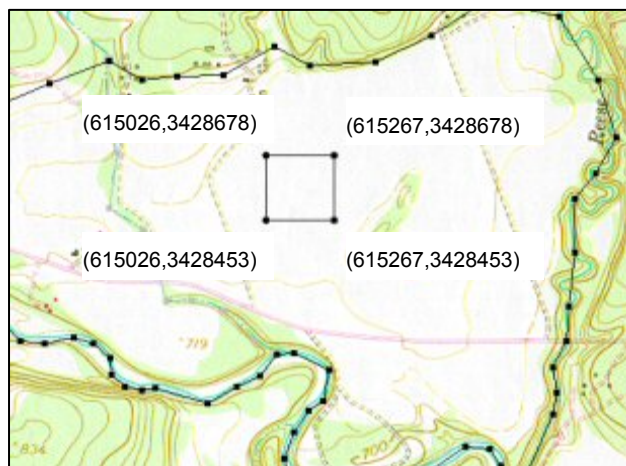

Figure 6. Landfill.
2. Create a rectangular polygon representing the landfill as shown in Figure 6. Don't worry about getting the exact coordinates at this point.